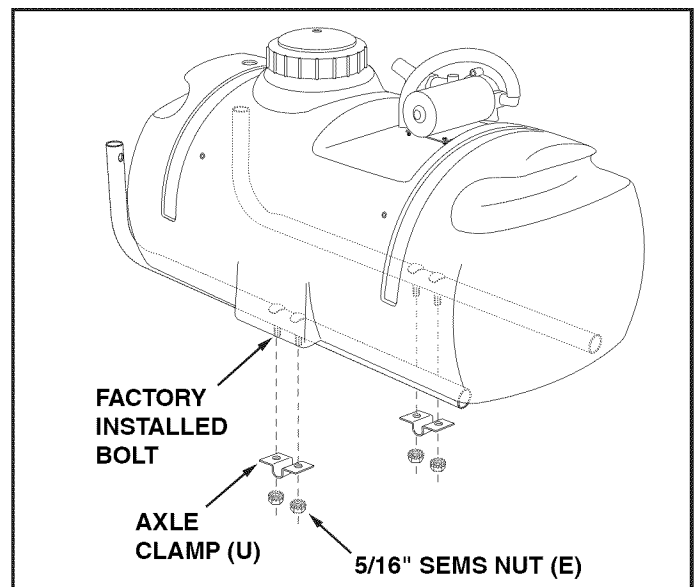
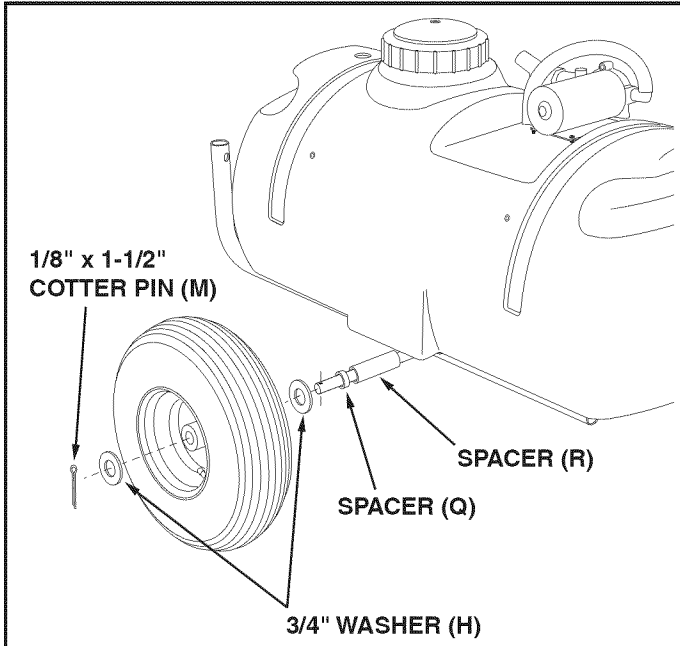

FIGURE 1
FIGURE 2
- (1) Hammer
STEP 1: (SEE FIGURE 1)
- Assemble the axle clamps (U) and four 5/16" hex nuts (SEMS) (E) to the factory installed bolts in the frame tubes. **Do not tighten yet.**
STEP 2: (SEE FIGURE 2 AND 1)
- Assemble a spacer (R), a spacer (Q), a 3/4" washer (H), a wheel (valve stem facing out) and another 3/4" washer (H) onto the axle. Assemble a cotter pin (M) through the end of the axle. Repeat on other end.
- **Tighten** the four nuts which fasten the axle clamps to the frame tubes. Refer back to figure 1.